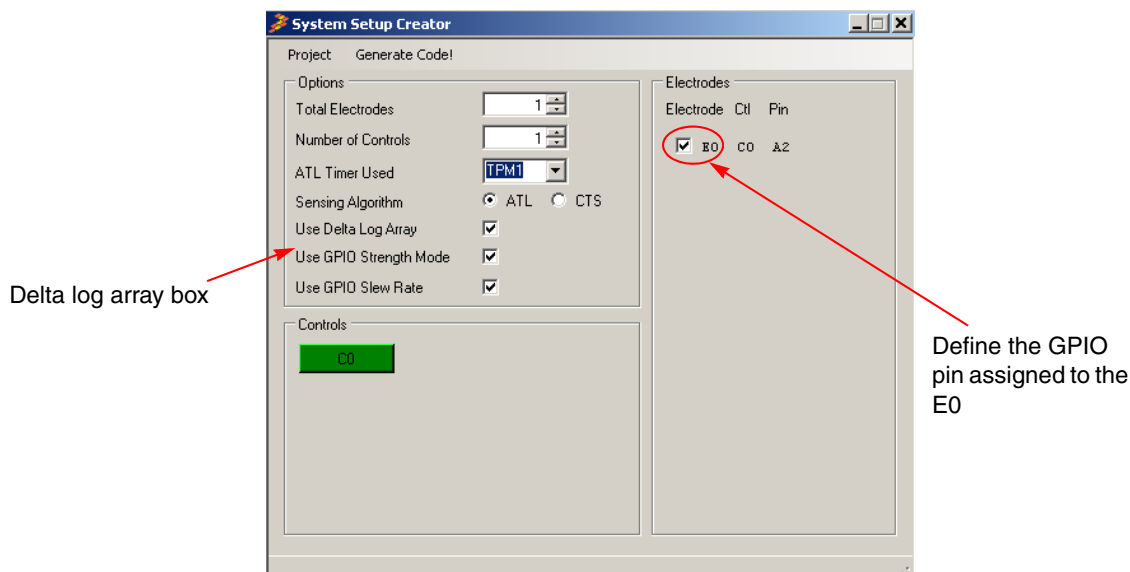

Figure 11. System Setup Creator
1. In Figure 11 check the delta log array box. This creates a data array that contains the capacitance sensing value minus the baseline value that is calculated when the TSS is initialized. This value is used in the Debugger Visualization bar-graph control later on.